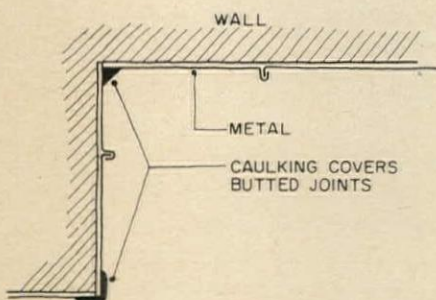

Figure 3
5. Water can come in through roofing breaks in the cant strip area or at angle points in flashings or reglets where protective metal has been merely butted, not carried continuously around the corner (Figure 3). When this type of sloppy installation is made, the perpetrator often camouflages it with caulking compound (of aluminum color if he really means to hide it). The detected presence of such caulking should be cause for rejection. But, often, the sad fact is that by the time discovery is made, the guarantee has expired and the owner pays the bill.